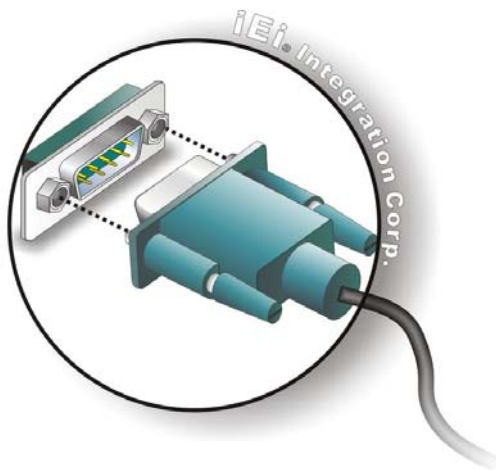

Figure 4-22: Serial Device Connector
Step 2: Insert the serial connector. Insert the DB-9 connector of a serial device into the DB-9 connector on the external peripheral interface. See Figure 4-22.